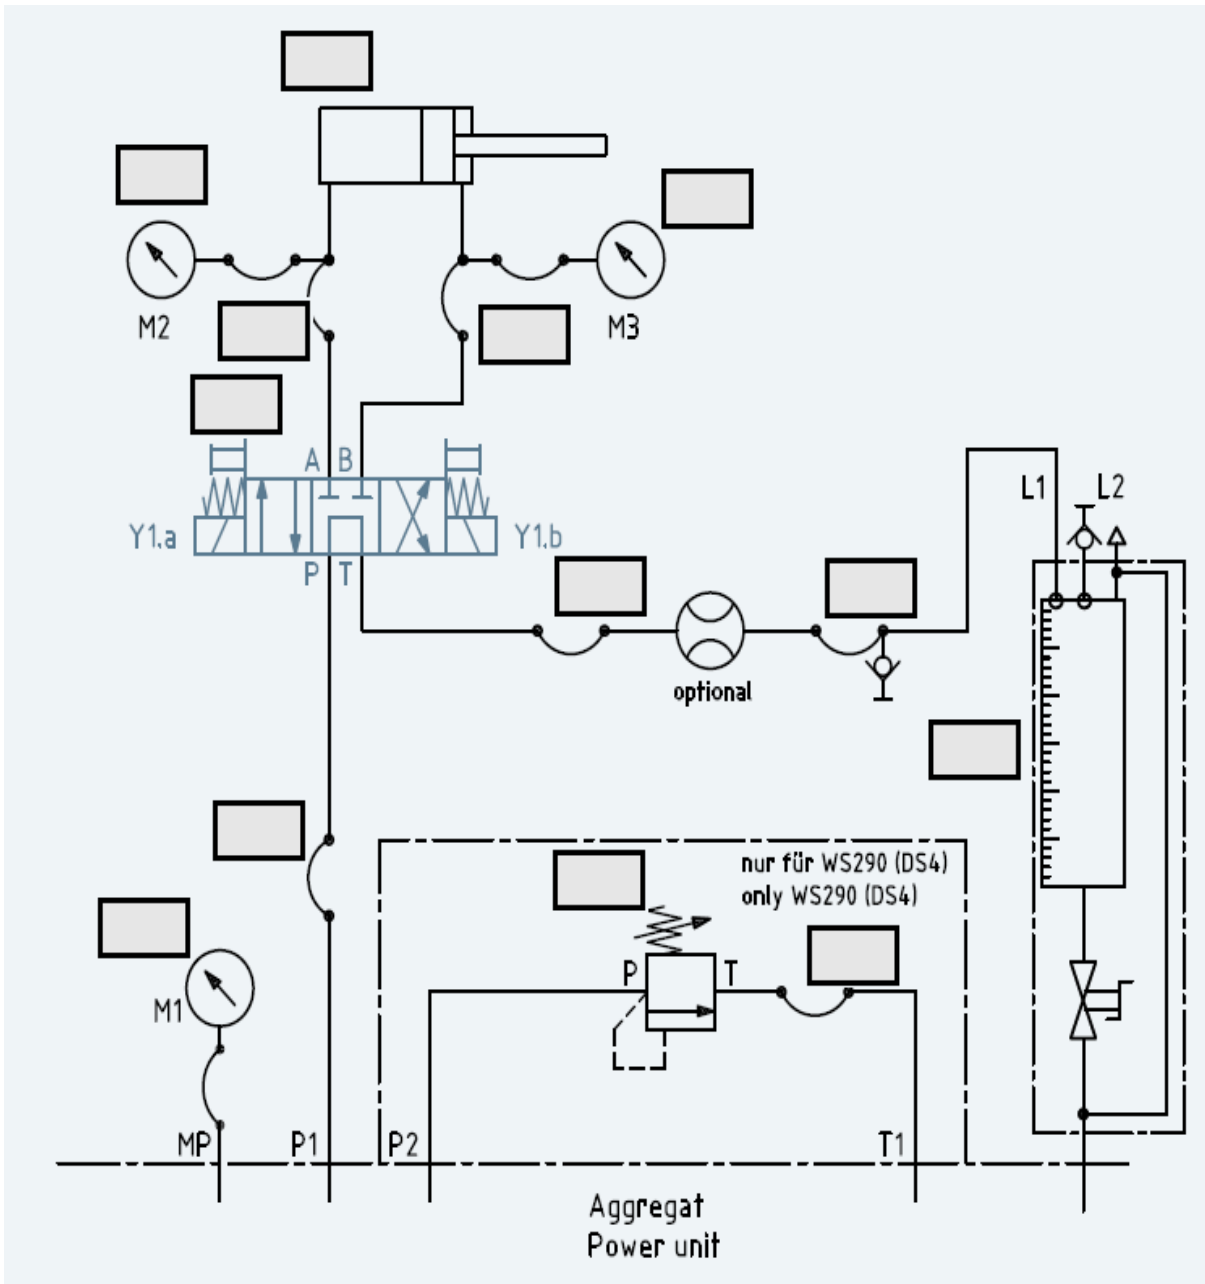

Figure 2.1: Hydraulic circuit diagram
1. Connect the hydraulic circuit according to Figure 2.1(a) using the components listed in Table 2.1(b).
2. Connect the electric circuit as shown in Figure 2.1(b).
- Move switch S1 of the control unit to switch position “1” (ON)